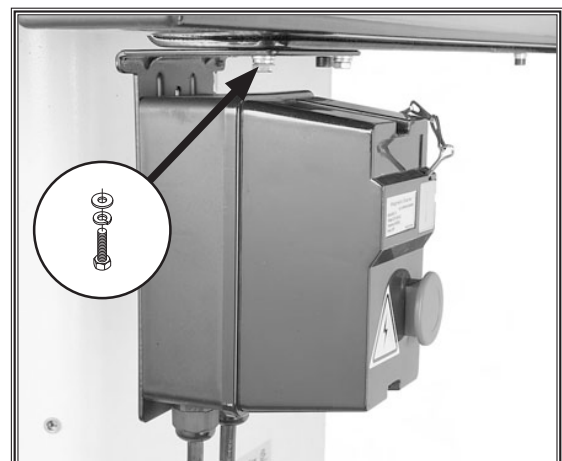

Figure 26. Magnetic switch installed.
- Install the magnetic switch onto the bottom left hand side of the front rail using two M6-1 x 12 hex bolts, 6mm lock washers, and 6mm flat washers, as shown in **Figure 26**.